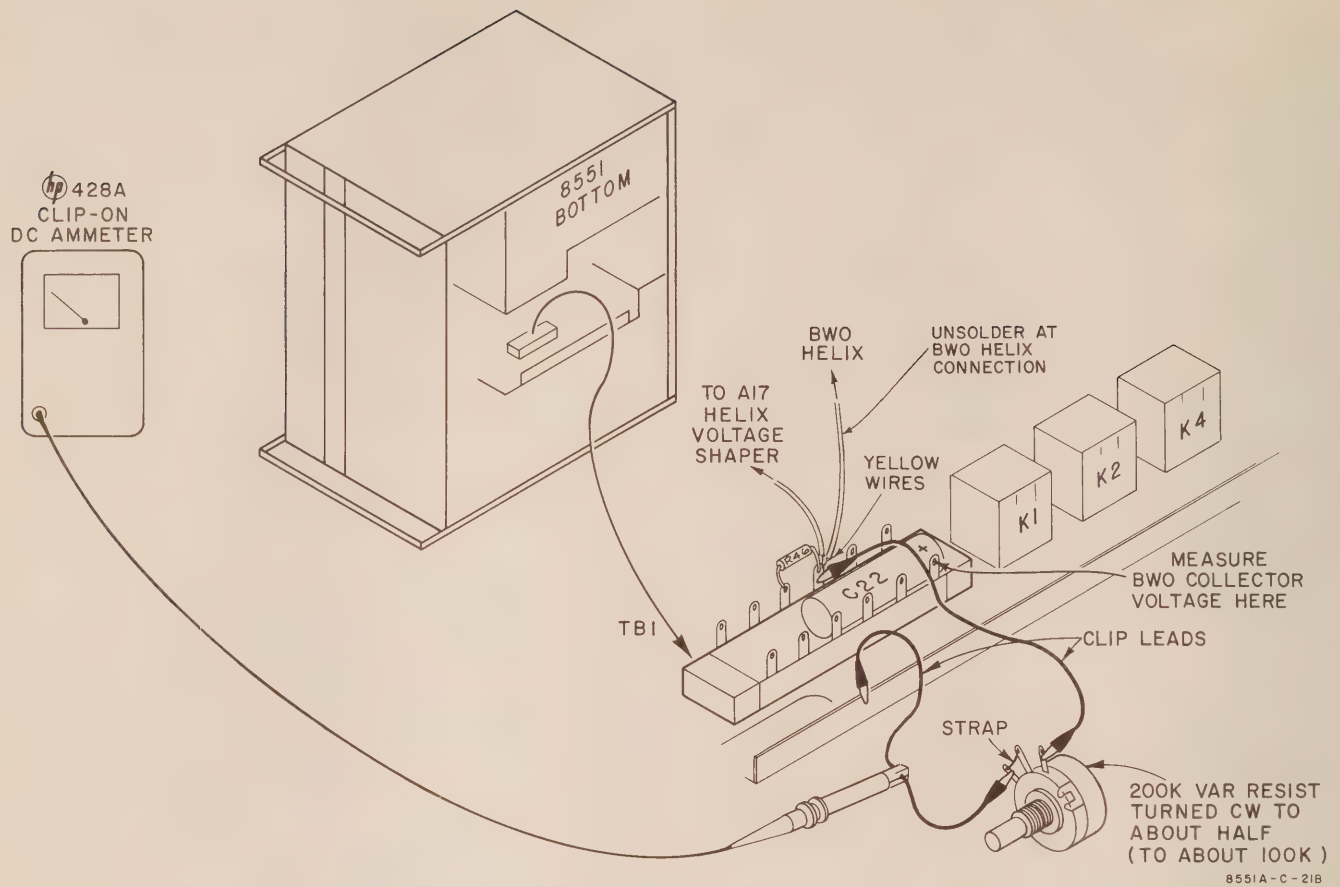

Figure 5-22. Setup for Checking Helix Overload Relay K4, 8551
5-166. SETUP. See Figure 5-22.
c. As indicated in Figure 5-22, two yellow color-coded wires are connected to the fourth terminal of TB2 on the inside row. Unsolder the yellow wire that goes to the BWO helix; at the connection of the BWO (see Figure 5-19).
- (1) Strap one end terminal to center terminal; these instructions assume strapping as indicated in Figure 5-22.
- (2) With resistor position as shown in Figure 5-22, turn shaft clockwise to about midpoint of range (to about 100 K).
- a. Locate relay K1. (See Figure 5-22.)